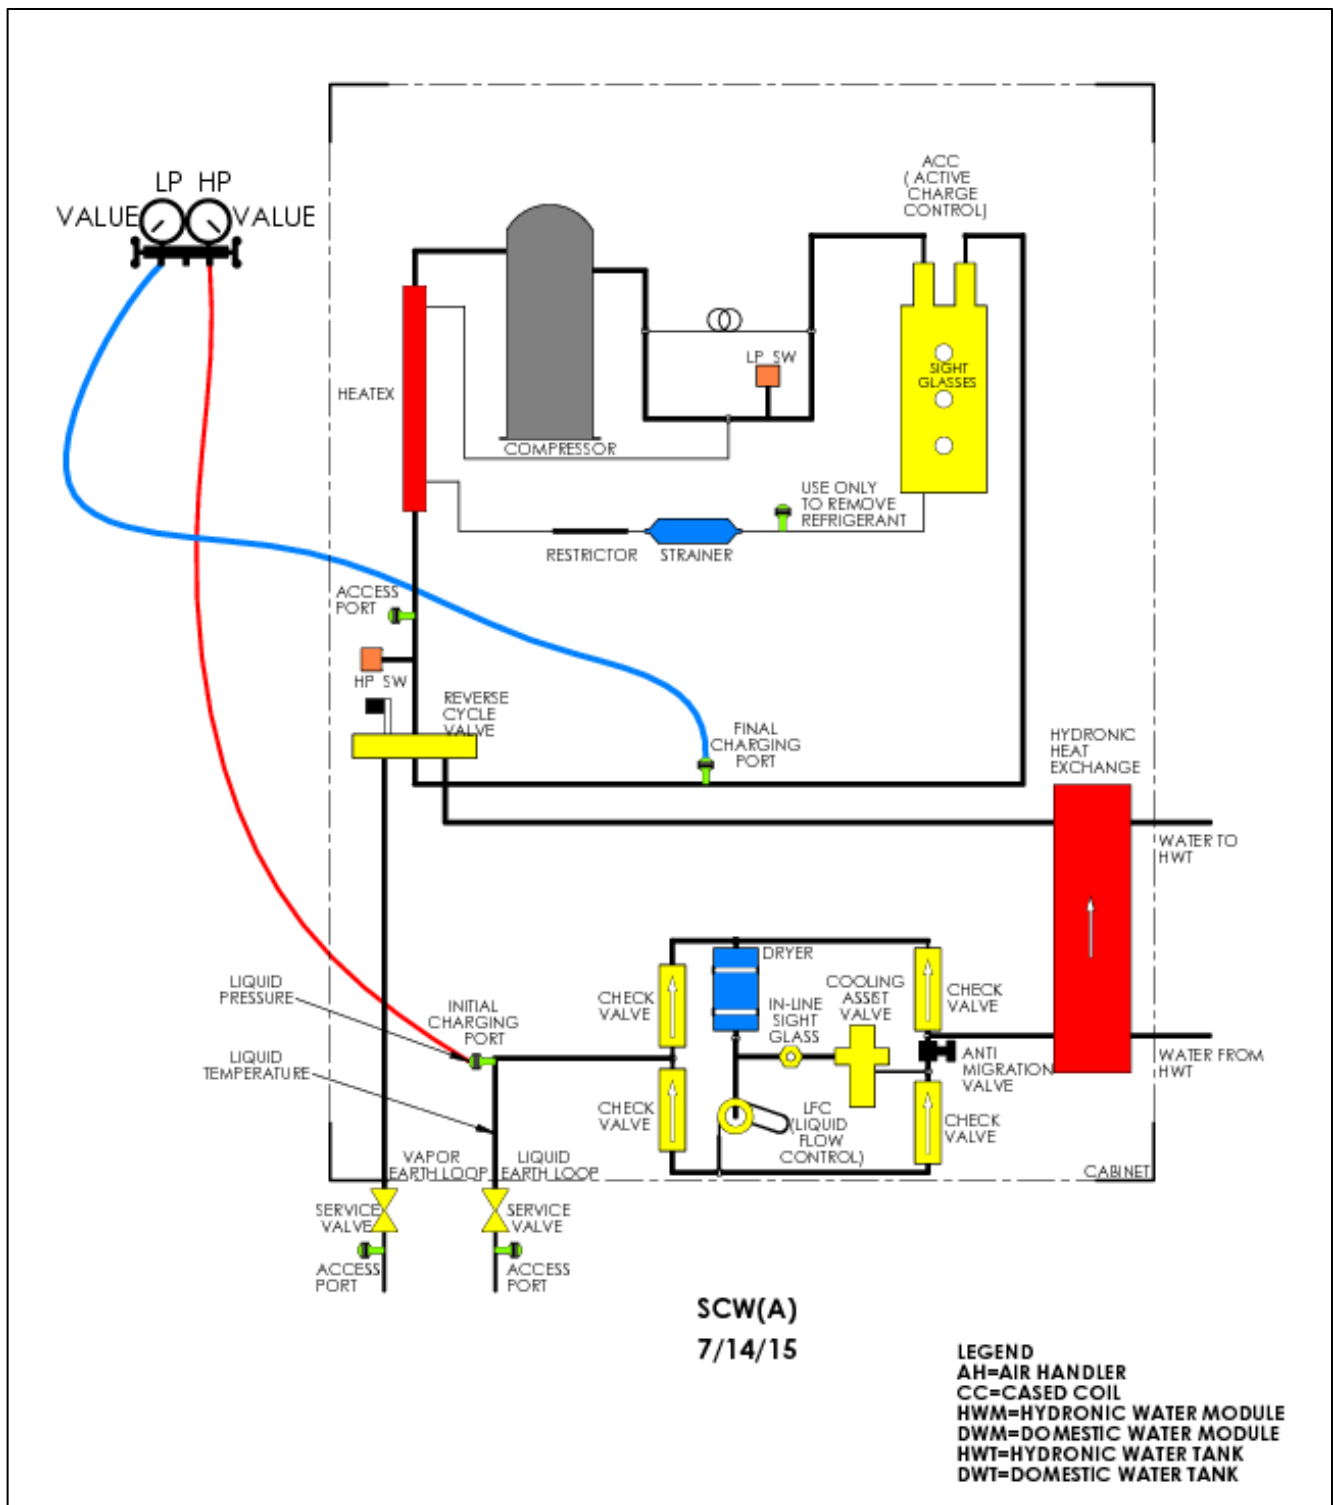

Figure 31. Subcooling Measurements
5. The subcooling is to be checked and adjusted if necessary to ensure that it is **no more than 5°F.** The subcooling is checked by first disconnecting the high side hose from the compressor discharge access port and reconnecting it to the initial charging port as shown in Figure 31. Read the liquid line pressure.
6. Read the liquid line temperature just inside the compressor unit at the same location as in step 4 and as shown in Figure 31.
11. After adjusting for subcooling, reconnect the high side hose to the discharge access port as shown in Figure 31 and monitor discharge pressure. If refrigerant was recovered to adjust subcooling, the discharge pressure could have dropped to less than 320 psig, reopening the CAV. If so, allow the system to run for a period of time until the discharge pressure is 320 psig or higher, and the suction pressure is 120 psig or higher. Check the liquid line temperature again to ensure that is 100°F or higher.